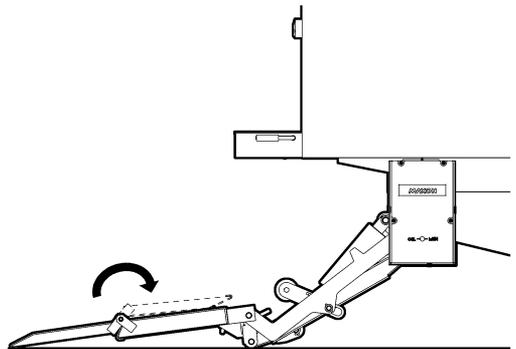

FIG. 10
9. Stow the Liftgate by doing the following steps. **RAISE** the Platform 2" above the ground (**FIG. 9A**) by pushing the Control Switch to the **RAISE** position (**FIG. 9B**). Then fold Flipover (**FIG. 10**).